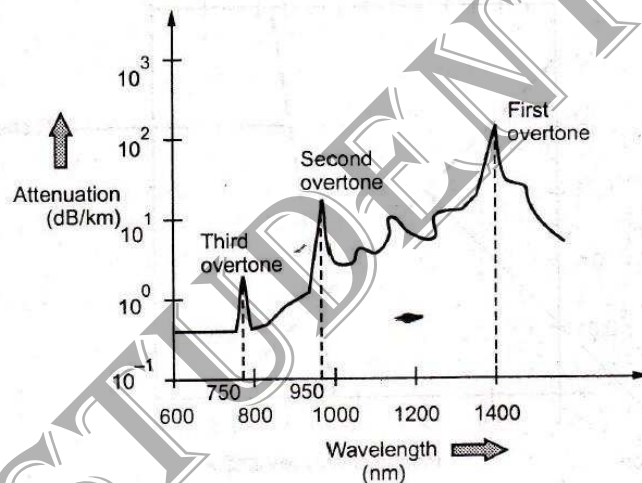

Fig. 2.2.2 Absorption spectra for OH group
- x Fig. 2.2.2 shows absorption spectrum for OH group in silica. Between these absorption peaks there are regions of low attenuation.